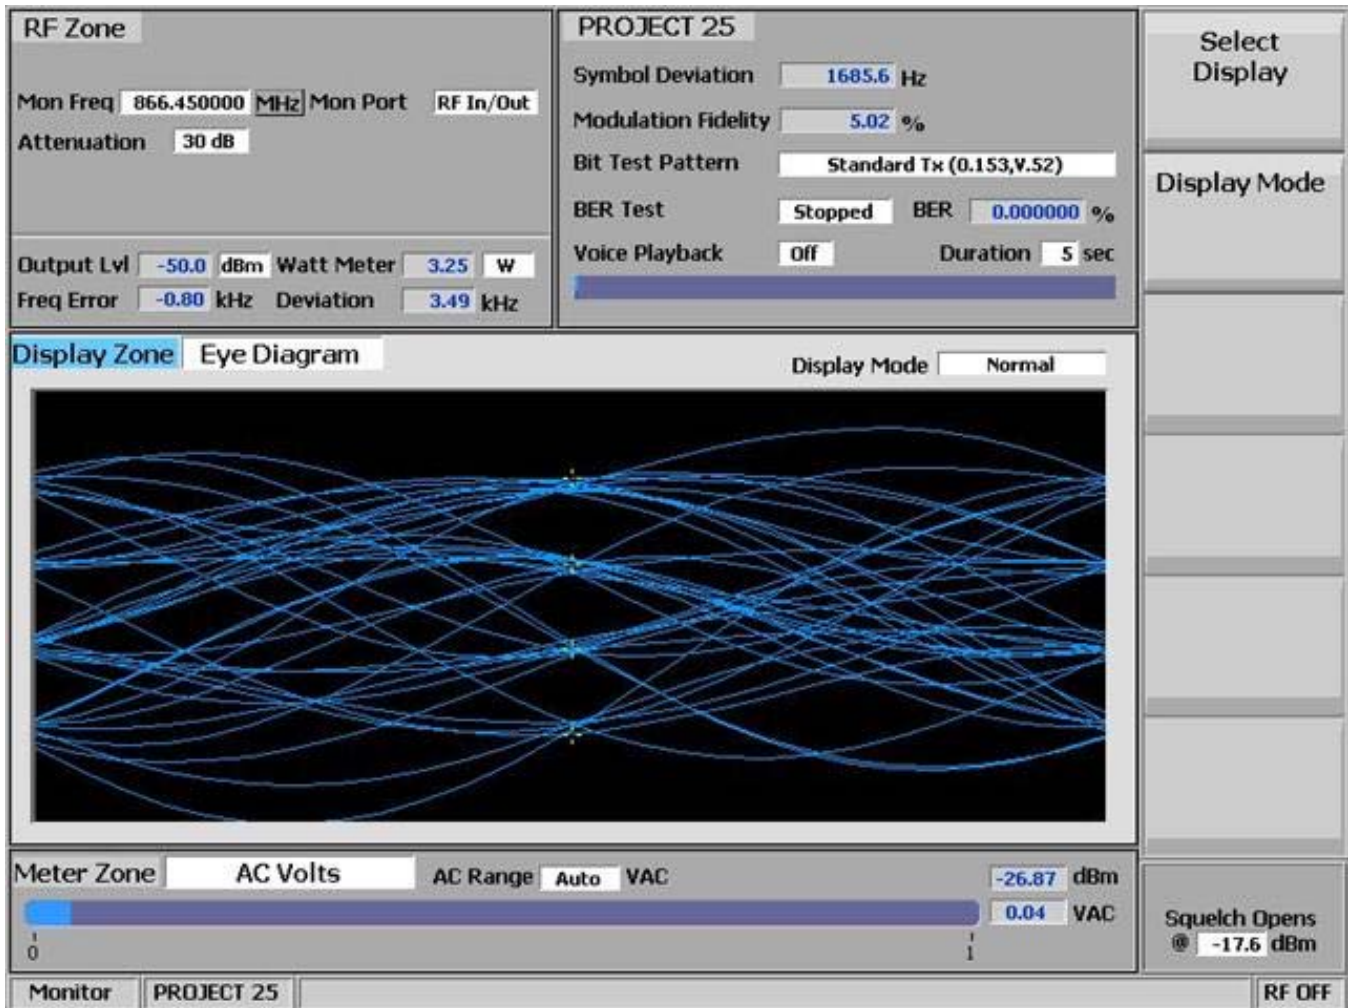

Figure 3.2.8.4.2-2 P25 Eye Diagram selection in Display Zone
*The Eye Diagram provides a visual display of the received P25 signal and overlays the modulation response over the four “target” crossing points for an ideal P25 signal – see Figure 3.2.8.4.2-2. To select the Eye Diagram for viewing with the other P25 measurements on the main screen navigate to the Display Zone while in P25 mode. The Eye Diagram can indicate whether a transmitter has significant unbalances or offsets in the modulation circuitry by noting how tightly grouped the waveform is around the crossing points.*